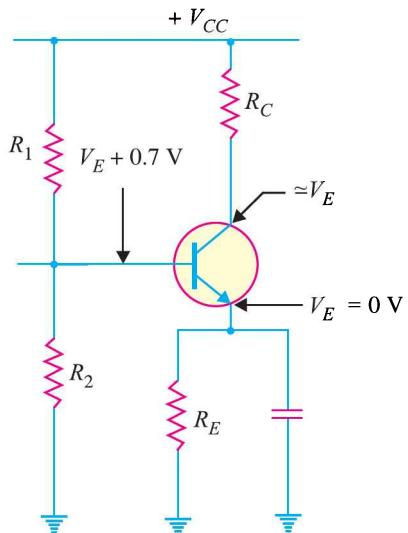

Fig. 9.53
10. What fault is indicated in Fig. 9.53 ? Give reasons for your answer. [ $R_C$  is open]